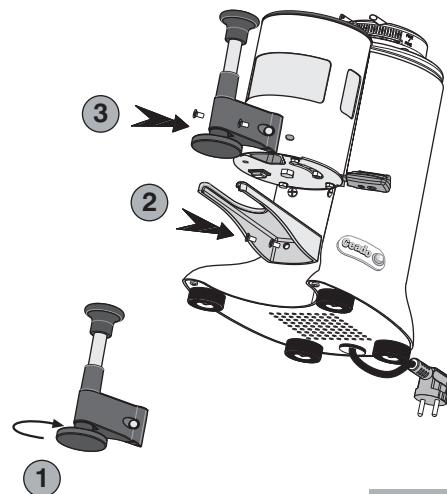

Fig. 14
- 2** Choose the suitable press diameter (53, 54,5 or 57,5 mm) for the filter-holder of your coffee machine and fix it to the rod of the telescopic press (1, Fig. 14).
- 3** Position the long support fork supplied with the telescopic press and fasten it using the same retaining screws of the short fork removed previously (2, Fig. 14).
- 4** Position the telescopic press and fasten it with the screws provided (3, Fig. 14).
longue (option) (voir aussi Fig. 14) |